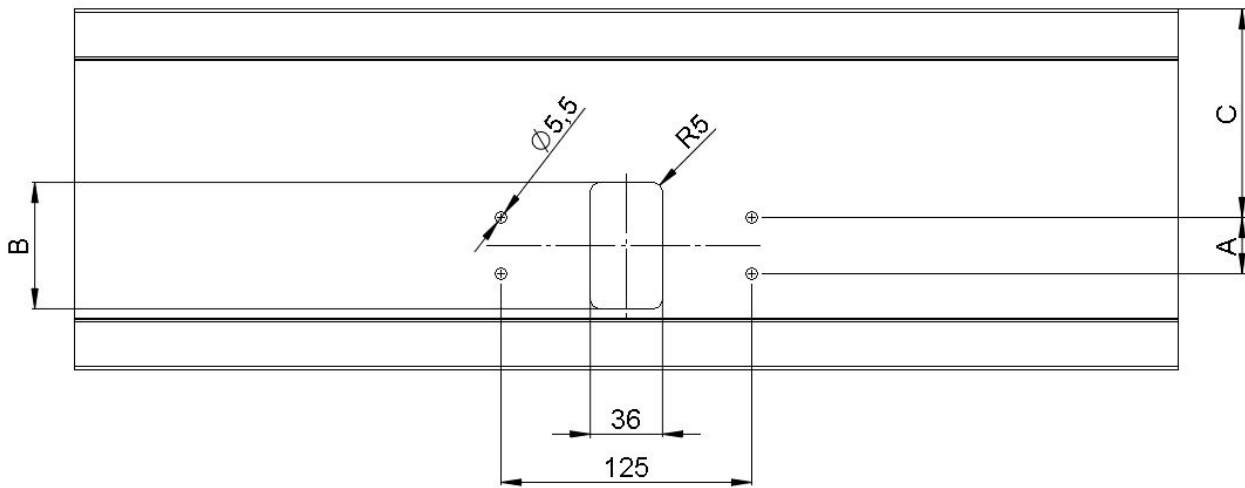

Fig. 5: Example: Installation drawing shown in rear view (section and hole pattern for 4-pole collector brush sensor unit)
- Cut conductor rails to measure, if required (see Fig. 5), deburr cutting edges. More details see mounting instructions for rail material / conductor rail 0185